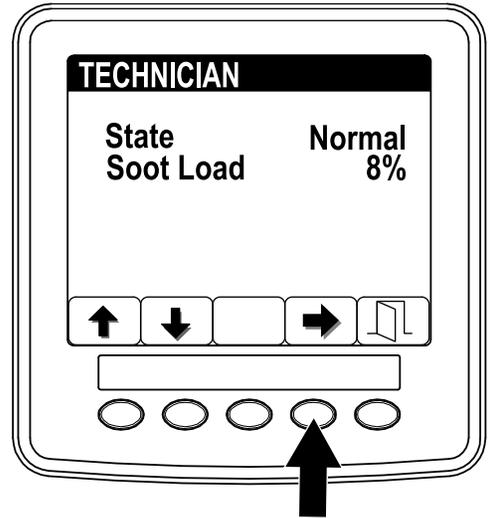

Figure 8
- Use the DPF operation table to understand the current state of DPF operation (Figure 8).